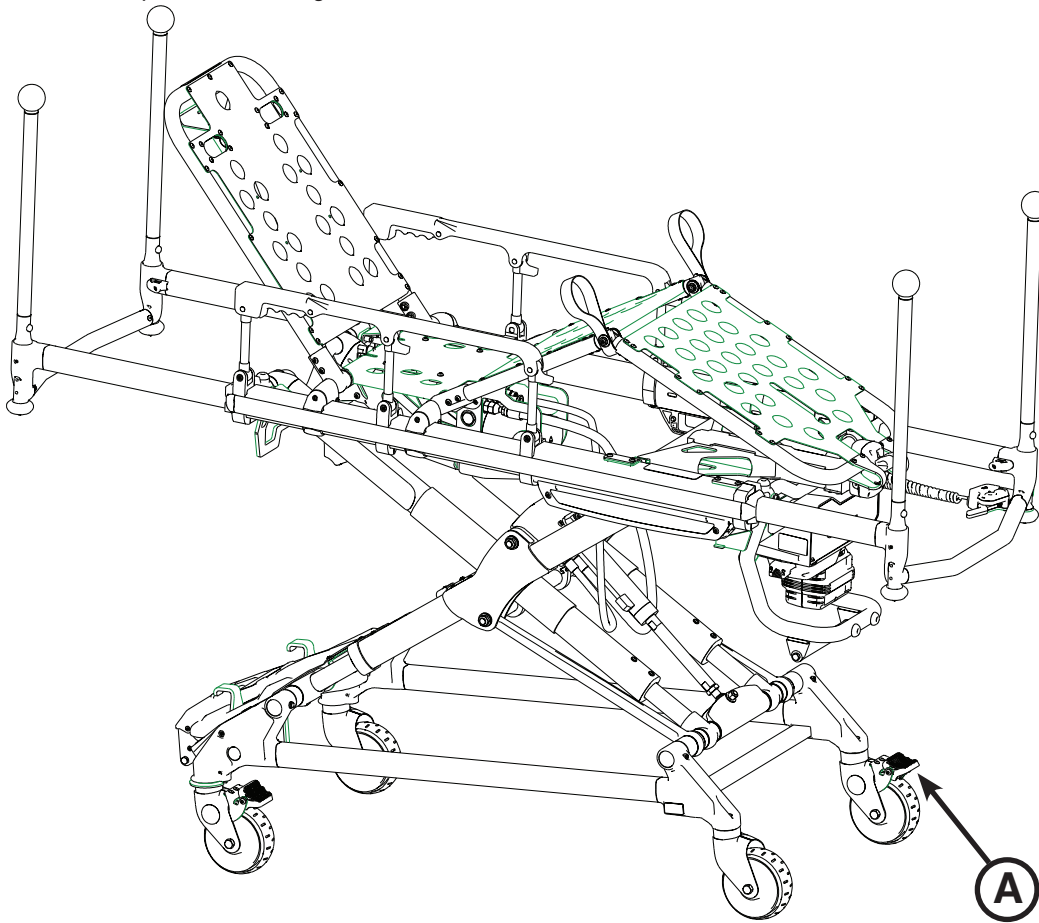

Figure 26: Wheel Lock
**To secure the wheel lock(s)**, press down on the base of the locking pedal (A) until it rests firmly against the surface of the wheel as shown in Figure 26.